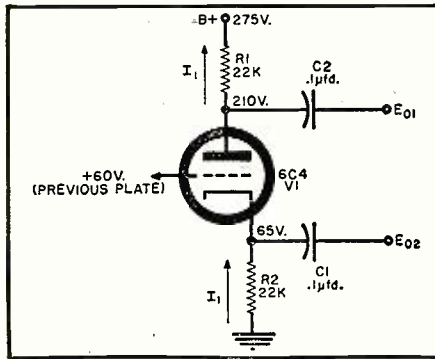

Fig. 3. Split-load phase inverter.
3. *Split-load phase inverter:* The third and most popular phase inverter circuit, being used in the Williamson and Williamson-type amplifiers, is the split-load type (Fig. 3).